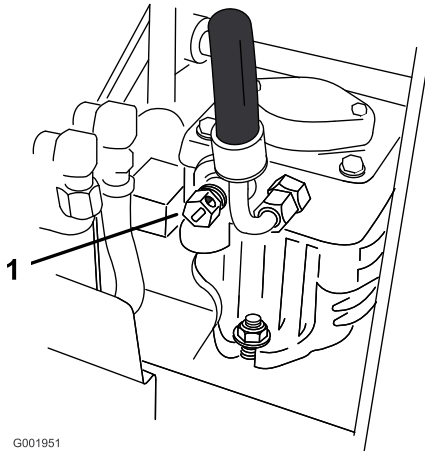

Figure 22
2. Open the by-pass valve on both pumps by turning them counter clockwise 1 to 2 turns. This allows hydraulic fluid to by-pass the pumps and the wheels to turn (Figure 22).